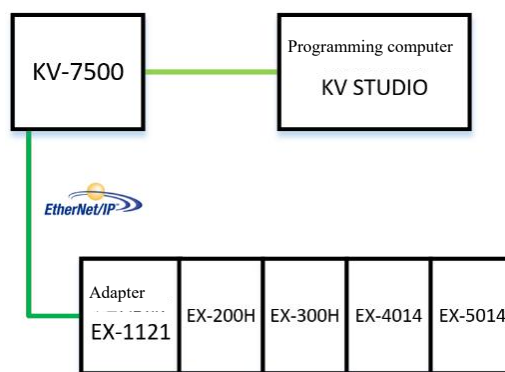

FIG. 5-8-48 Communication connection diagram
1. Communication connection diagram, as shown in Figure 5-8-48